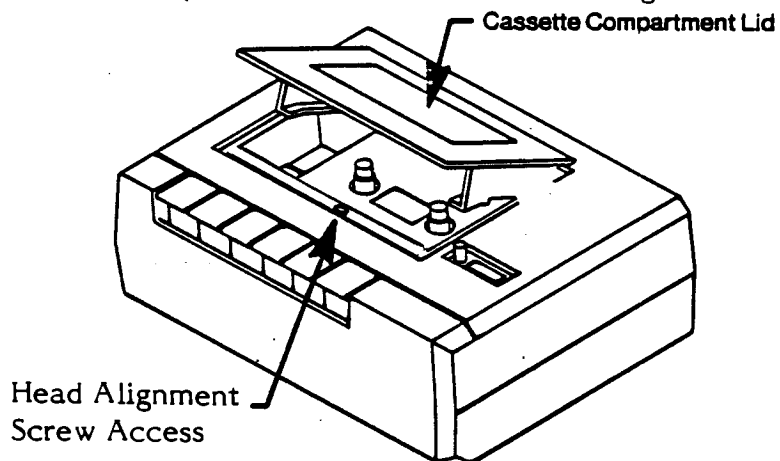

Figure 4-1. Accessing the 1010S Head-Alignment Screw
2. Insert the 3KHz test tape under the door of the cassette player, so that the door is open when the cassette is in place. This allows you to access the head-adjust screw through the hole in the plastic cover as illustrated in Figure 4-1 below.